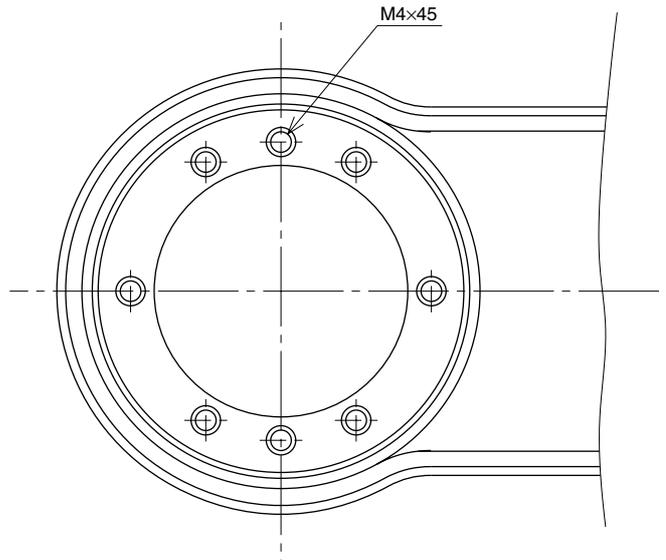

Fig. 5-43
- 11) Remove the Y-axis harmonic drive installation bolts (M4×45L, 8 pieces). (See Fig. 5-43.)
- 14) Place the new harmonic drive on the X-axis arm, and secure it with the bolts (M4×45L, 8 pieces) you removed earlier. Apply small amounts of "Screw Lock" to the bolts and tighten them uniformly to secure the harmonic drive from the backside. (See Fig. 5-43.)